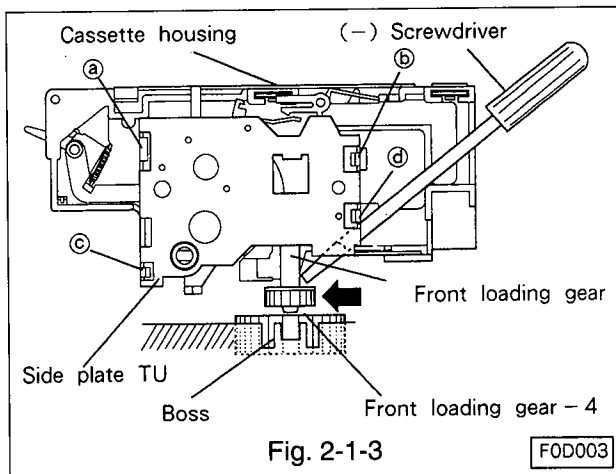

Fig. 2-1-3
- In step A above, if the front loading gear of the cassette housing does NOT engage the boss on the main plate, carefully push the gear toward the front of the VCR using a small-diameter screwdriver, as illustrated in Fig. 2-1-3. If the gear still will not engage, rotate the Front Loading Gear a few degrees from below the deck until the gear engages the boss correctly.
2-2-1 Removal(Refer to Fig. 2-1-3~2-2.)
- Unfasten four snaps (a ~ d) as shown in Fig. 2-1-3, and remove the side plate TU.
2-2-2 Installation(Refer to Fig. 2-1-3~2-2.)
- Install the side plate TU to the cassette housing, and secure it with four snaps (a ~ d) as shown in Fig. 2-1-3.